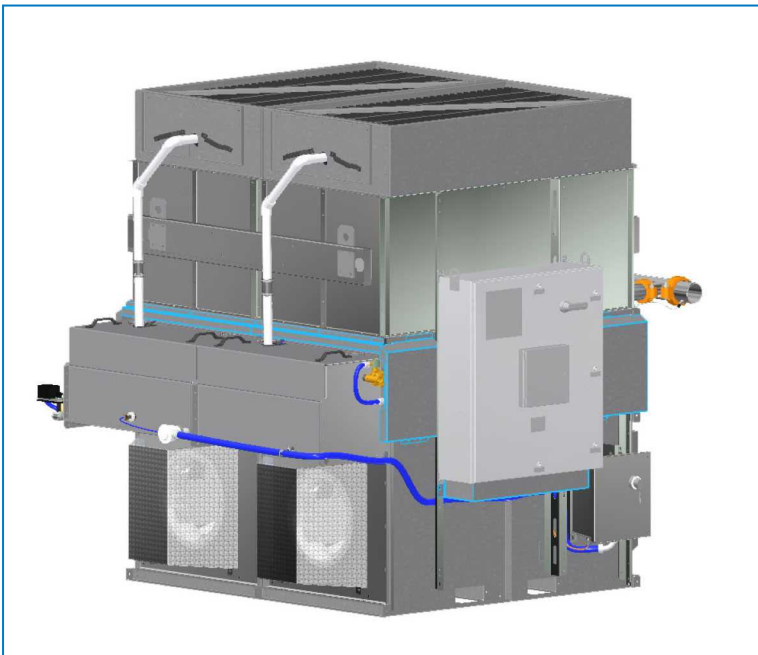
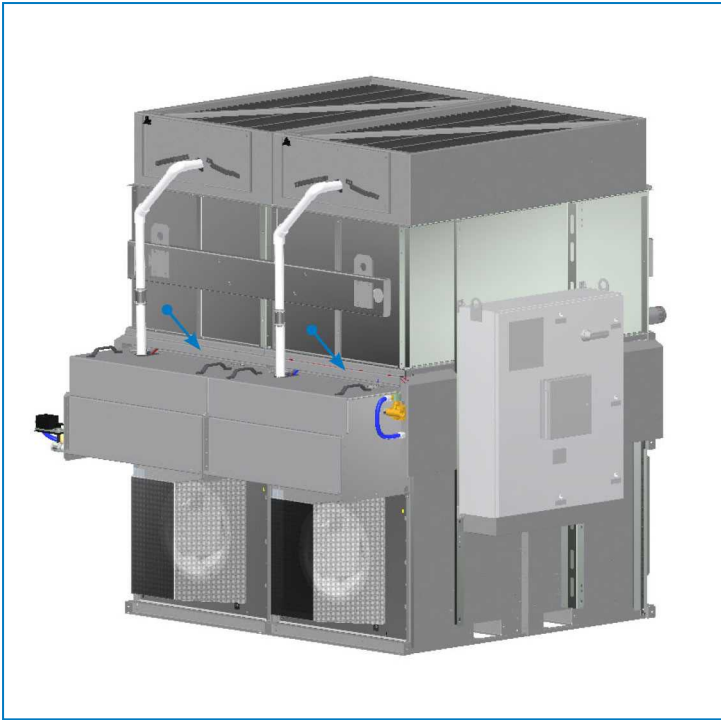

Fig. 14 Location of cover panels around the iPilot® Control System panel (optional basin heater shown)
Fig. 19 Install wire cover
1. Remove the rest of cover panels around control panel and above spray water basin. Keep the hardware for reinstallation of panels. See figure 14.
10. Install the wire cover panel at the top of the spray water basin. See figure 19. Install the cover panel at the back and side. See figure 11 and 12. Finally install the cover panels around the iPilot® Control System panel, see figure 14.